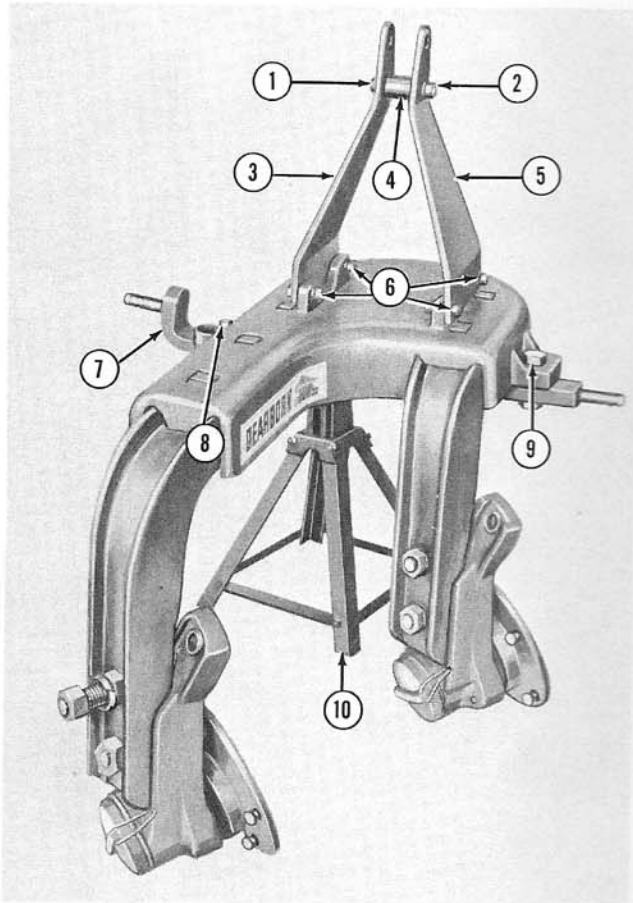

Figure 2
2. Block the plow frame up with a jack or other suitable support as shown in Figure 2. The support should be approximately 18 inches in height.
- a. Position the "A" frame members (3) and (5), Figure 2, on the main plow frame with the angled side of the members toward the rear of the plow. Attach these members to the plow frame loosely with the four bolts, lockwashers and nuts shown at (6).
- b. Secure the top of the "A" frame with the bolt (2), Figure 2, spacer (4), and the lockwasher and nut (1) provided.
4. Attach the cross shaft (7), Figure 2, to the plow frame with the bolts, lockwashers and nuts (8) and (9) as shown. Under normal conditions, install the bolts through the right hand set of holes in the cross shaft. (See adjustment)
- c. Remove the jack (10), Figure 2.